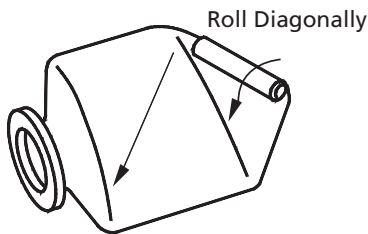

Figure 21 – Roll Diagonally Toward Neck
- To get tightest possible wrap, start on one side at top and TIGHTLY roll bladder diagonally to other side (See Figure 21). To force out as much air as possible, roll toward bladder neck opening.